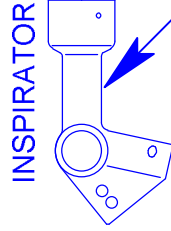

Fig. 4
2. Remove spud from the inspirator. Using HMK-1008 (Fig 3) Place into the throat of the inspirator (Fig. 4) with a Twisting motion and scrub this area clear of any debris.